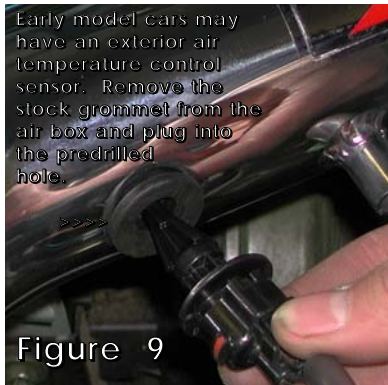
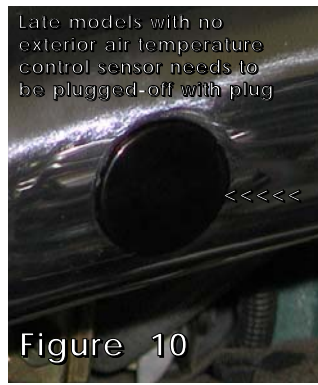

Figure 9
Figure 10
2. Remove the front bumper for better positioning of the secondary intake and filter. You will also be removing the resonator box from the front bumper. You may also raise the front end of the car and remove the passenger side tire. Remove screws up by the wheel well to pull plastic lining back to place the secondary intake and filter. There are two 17mm bolts on each side of the frame by the head lights that will need to be removed see figure 2. There is another 10mm bolt directly in front of the car and clips on each side of the bumper that will need to be removed and 2 harness connectors connecting the fog lights on each side of the car. See fig. 9
7. Early model cars may have an exterior air temperature sensor use the stock grommet on the box to insert into the 3/4" hole and plug the sensor into the grommet. See fig. 9 all other models use plug provided to plug-off the 3/4" hole in the intake. See fig. 10